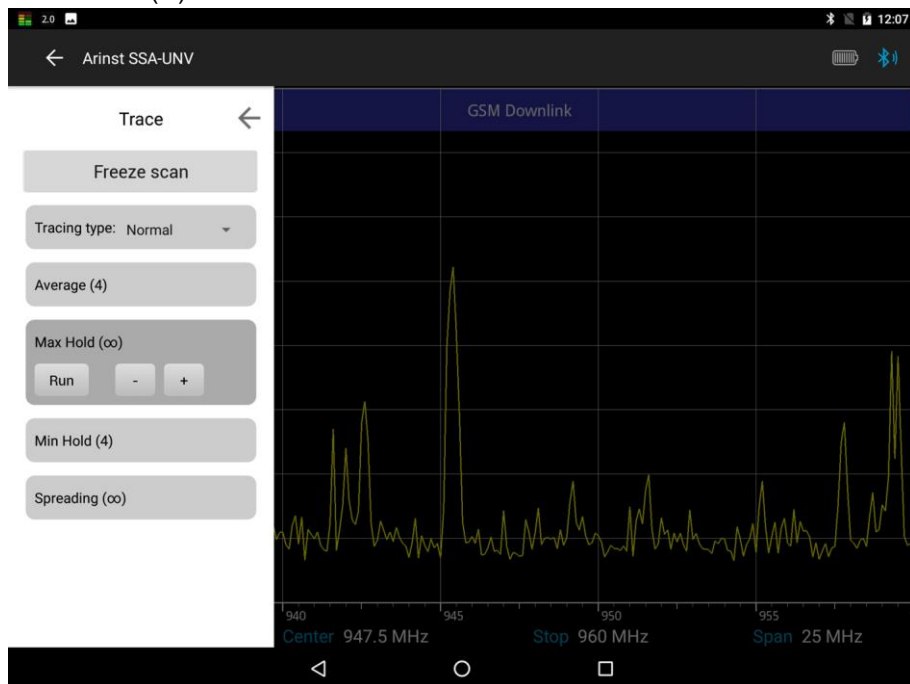

Figure 89 – Setting the number of scans for maximum display
9.6.4. Enter the menu of statistical and mathematical processing of the displayed data **Trace**, set the **Max Hold** mode to display the averaged maximum measurements as shown in figure 89. Use the "-" and "+" buttons to set an infinite (∞) number of scans and click the **Run** button.